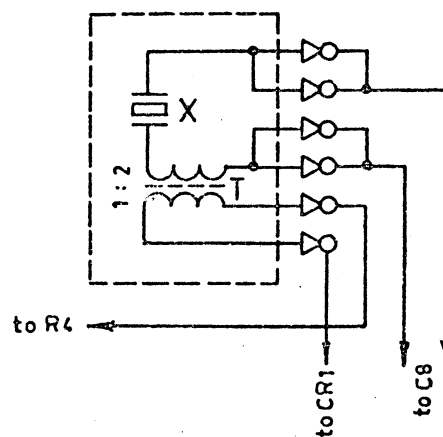

Fig.2 Crystal circuit.
- (1) First, remove the empty board in the coil turret that corresponds to position EXT. OSC. of the RANGE knob and remove the connection between the two contact pins.
- (2) Mount a piezoelectric crystal X and an RF transformer T on the board as shown in the diagram, figure 2.
- (3) Reinsert the board in the coil turret.